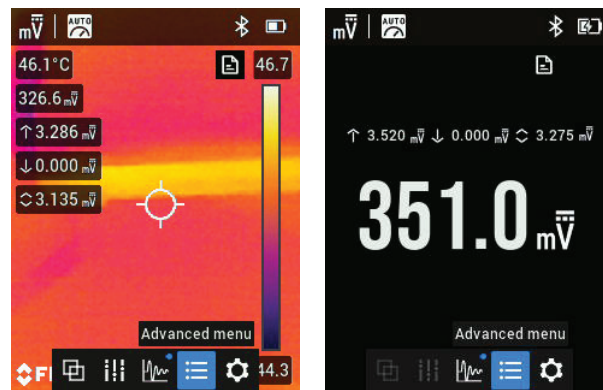

Figure 10.16 Advanced Menu accessible from thermal image mode (left) and multimeter mode (right).
2. The maximum, minimum, and average reading memories will appear on the left side of the thermal image, or above the main reading in the multi-meter mode, next to their associated icon    (left to right, MAX, MIN, AVG), as shown in Figure 10.16.